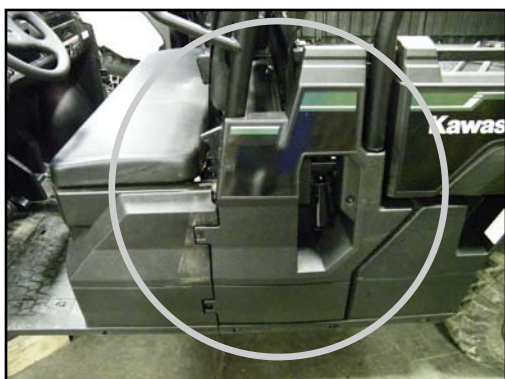

Fig. 1.5 Driver's Side Cover (1)
**1.5** Per figure 1.5, remove the driver's side cover from the vehicle. Only the driver side panel needs to be removed. Do not discard, this will be re-installed after the rear panels are in place.